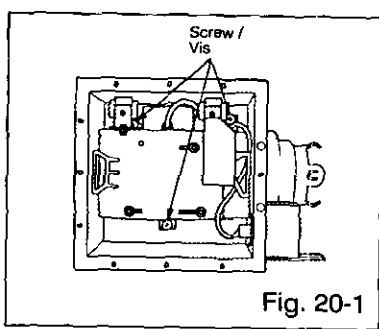

Fig. 20-1
- Remove 3 screws. (Fig. 20-1)
- Retirez les 3 vis. (Fig. 20-1)